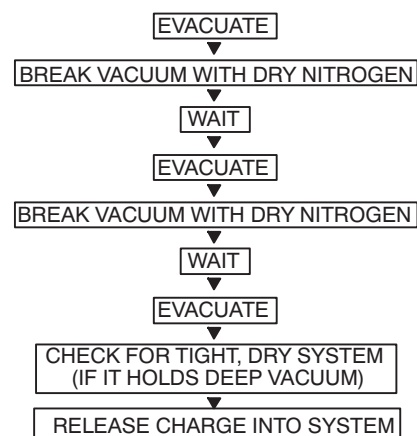

Fig. 9 — Triple Evacuation Method
The triple evacuation method should be used. Refer to Fig. 9 and proceed as follows:
5. Repeat this procedure as indicated in Fig. 9. System will then be free of any contaminants and water vapor.